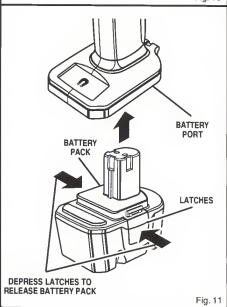

Fig. 11
- Place the battery pack in your drill. Align raised rib on battery pack with groove in drill's battery port. See Figure 11.
- Locate latches on side of battery pack and depress both sides to release battery pack from your drill. See Figure 11.